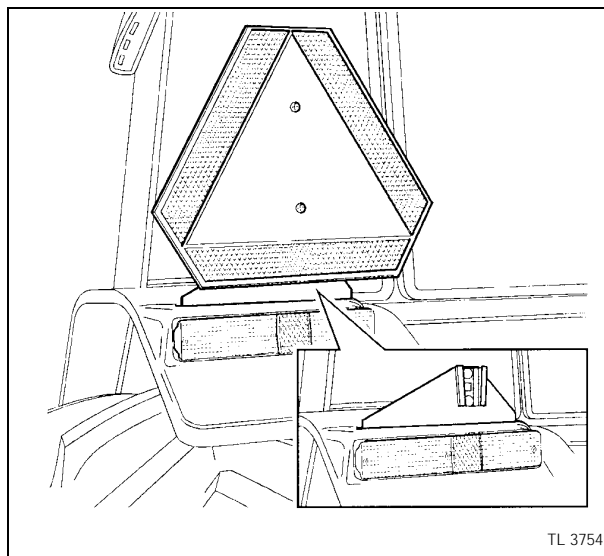

Fig. 25
- Make sure tractor and equipment are equipped with Slow Moving Vehicle (SMV) (Fig. 25) signs and other marking aids recommended for improved visibility, or beacon (Fig. 26) if the law requires them.